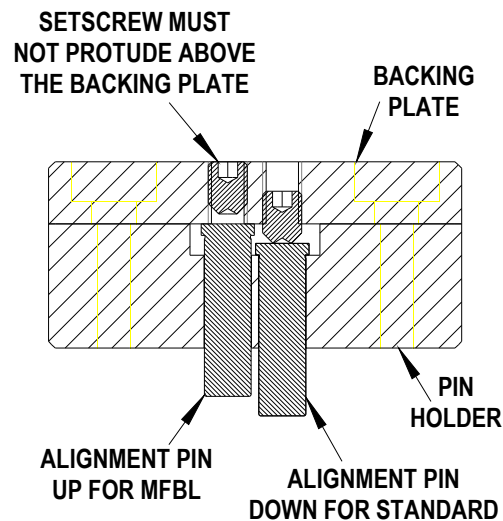

Figure 4
1. Remove the (4) M3 screws from the backing plate.
4. Replace the backing plate and replace the (4) screws.
6. The tool alignment pins that support the longer connector pins must be raised into the pin holder. To do this, loosen the M3 setscrew above the pin. Allow the setscrew to come up to the top of the backing plate (but not above the surface.). See Figure 4.
7. Repeat step 6 for the remaining MFBL positions. The "standard" pin positions must have the M3 setscrew tightened (gently) against the alignment pin. See Figure 4.